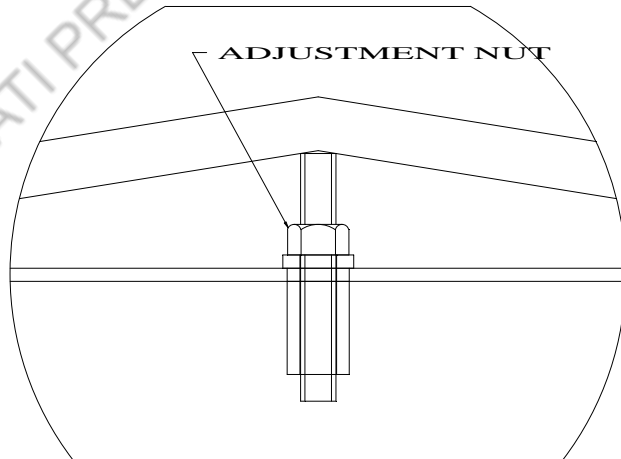

Figure 3b
2. Begin on the right hand side. Bring the ram down, as if checking the blade clearance, until the blades, items 1 and 2, just pass each other.
3. Loosen the (3) main bolts, item 5 (1-1/8" socket or wrench).
4. Increase blade clearance by first loosening jam-nut, item 4 (3/4" wrench) and then tightening the adjustment screw, item 3 (5/8" wrench).
5. Decrease blade clearance by first loosening jam-nut, item 4 and then loosening the adjustment screw, item 3.
6. Tighten jam-nut, item 4, when proper clearance is achieved. Finish by re-torquing the (3) main bolts to 200 ft-LB.
8. Bring the ram half way up. Increase clearance in the middle by loosening tension bar nut. Decrease clearance by tightening nut. See Figure 3b.